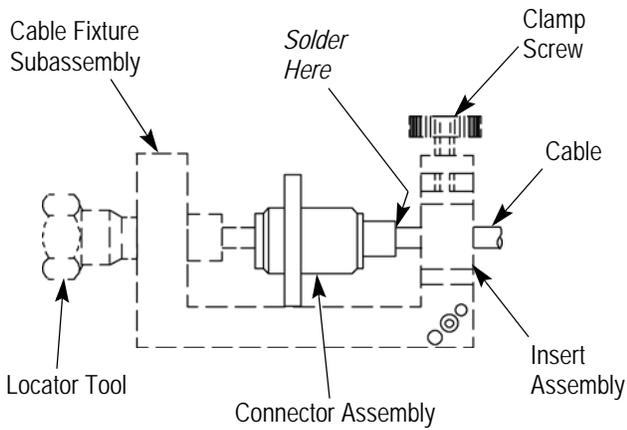

Figure 4
5. Place the assembly into the cable fixture subassembly as shown in Figure 4. Tighten the clamp screw to secure the cable. Tighten the locator tool to seat the cable firmly against the connector subassembly.
6. Using solder made of 60% tin and 40% lead, join the cable to the connector assembly at the location shown in Figure 4.